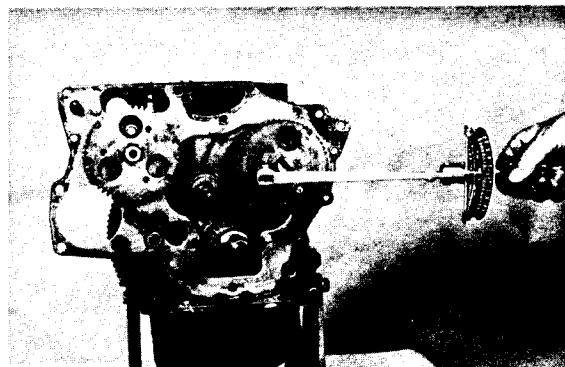

Figure 91
8. Before installing the camshafts and timing gears, turn the crankshaft to set the No. 1 cylinder to top dead center (TDC) of the compression stroke. Reverse steps 1 - 5 to install the camshafts and timing gears (Fig. 91).